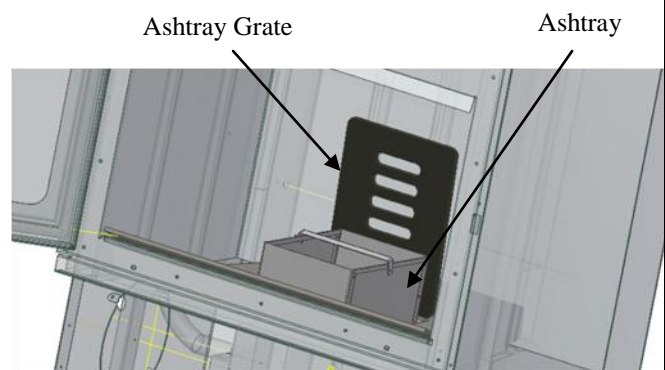

Figure 7 – Ashtray
3. Remove the ashtray grate. (see Figure 7).